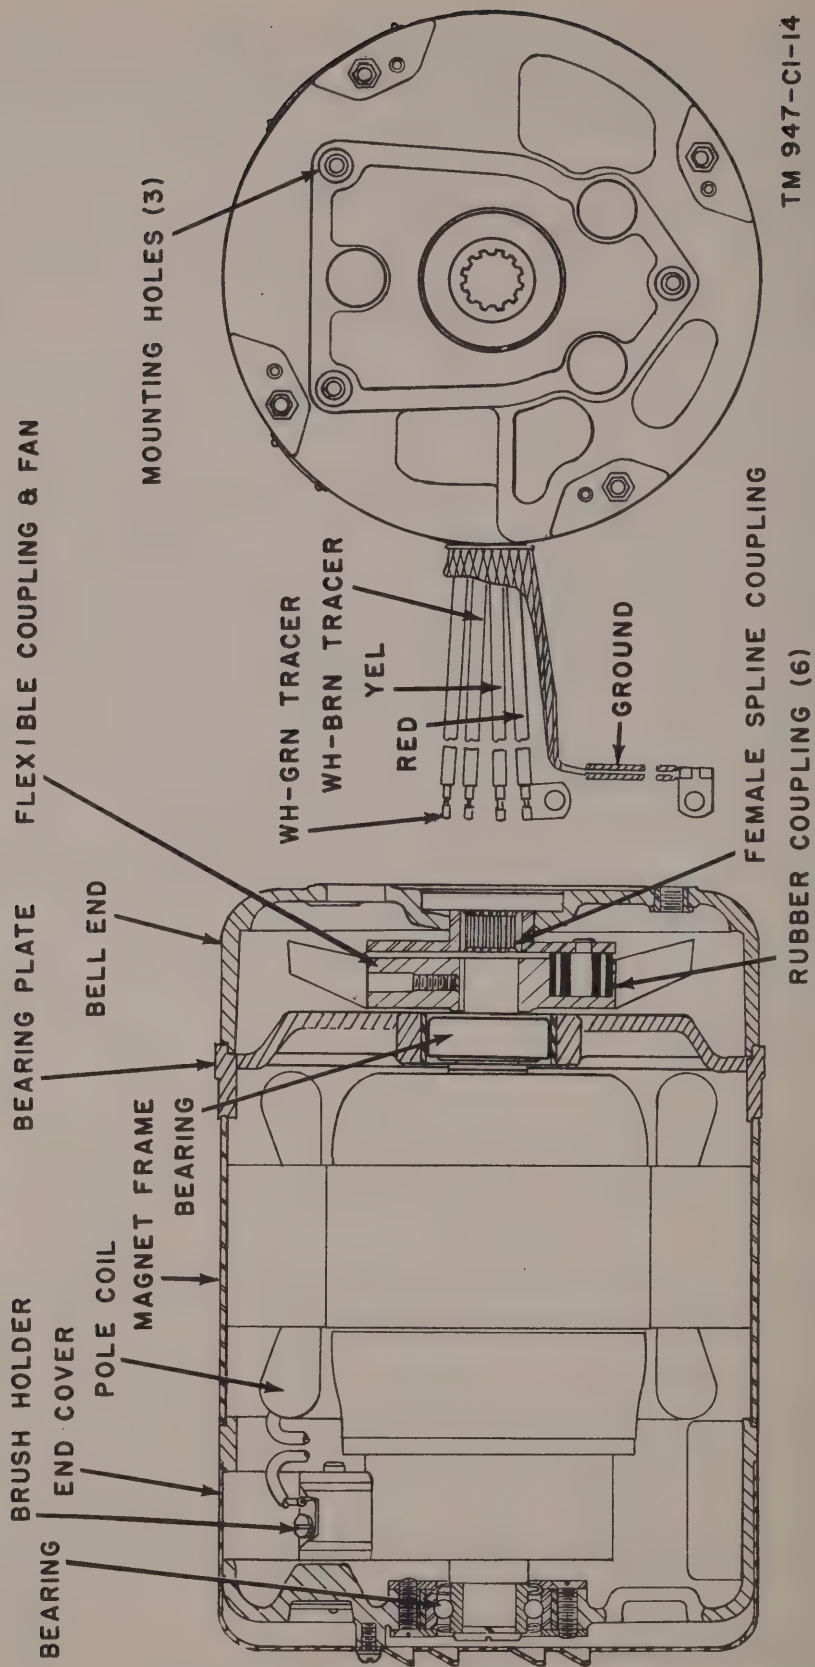

Figure 47.1. Power Unit PE-210-B, generator, cross-sectional view.
Page 79. Fig. 47. Insert figure 47.1 after figure 47.
d. REASSEMBLY (PE-210-B). When reassembling the generator, refer to the cross-sectional view (fig. 47.1).
(1) Insert the armature in the magnet frame assembly. The brushes should be removed for ease of installation. If necessary, tap the end of the armature to drive the shaft into the outboard end bearing. Protect the end of the shaft with a block of wood when tapping, and drive the shaft into the bearing only far enough to engage the retaining screw. Pull the shaft the rest of the way into the bearing by turning up on the screw.
(2) Turn the stator (magnet frame) on the end bell until the matching marks are alined. Insert the through-bolts and install the engine end bearing plate and bearing. Place the Woodruff key in the keyway on the splined end of the shaft and install the coupling and fan assembly onto the shaft. Insert one of the Allen-head set screws in the hole in the fan hub and turn it down tight. Insert the second Allen-head screw in the same hole and turn it down tightly on top of the first screw.
(3) Engage the driving half of the coupling with the driven half. Check that the rubber inserts in the driven half of the coupling are in good condition and that the pins on the driving half fit snugly into the rubber inserts in the driven half of the coupling.
(4) Install the engine end bell, and install and tighten the nuts on the through-bolts.
(5) Install the generator brushes and then install the outboard end cover. Before installing the end cover, make sure that all brushes move freely in their holders and that they are properly seated on the commutator.
(6) Assemble the engine to the generator. Attach the subbase to the engine, and install the complete assembly in the unit frame.